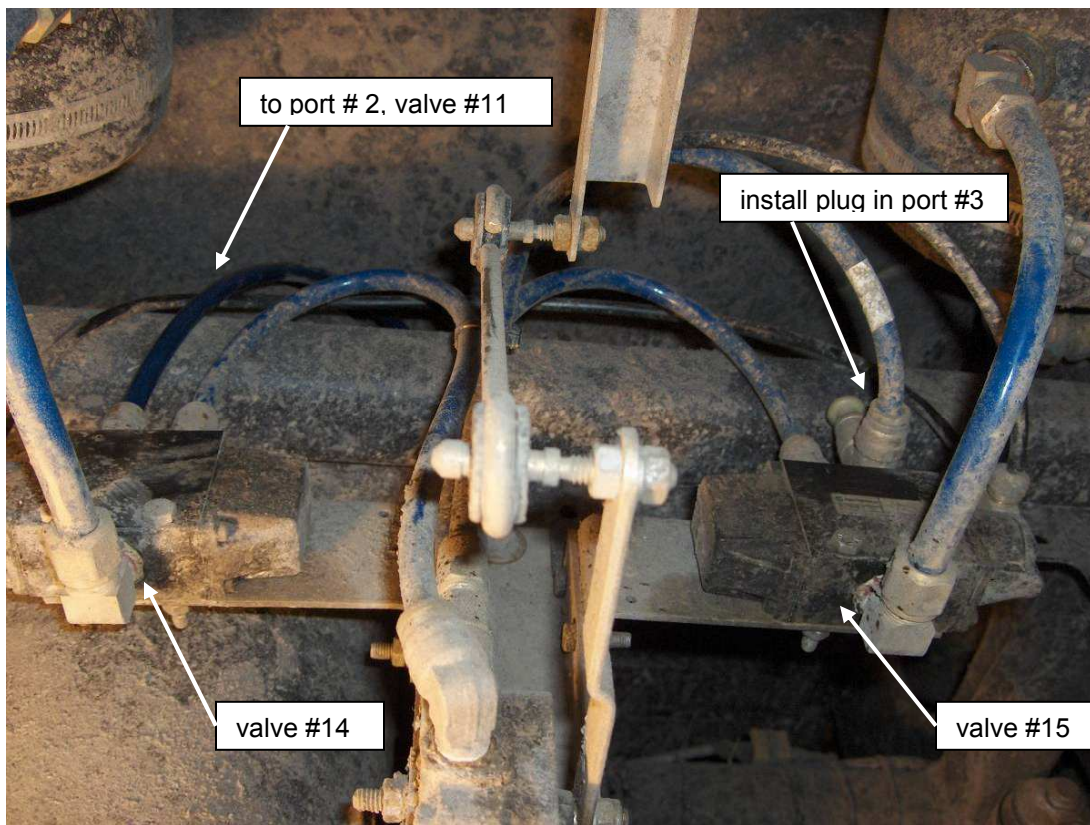

Figure 10 – Valve #14 & 15 (Looking toward front of coach)
15. Remove the air line that connects port #3 on valve #15 and port #3 on valve #14, install plug in port #3 on valve #15 as shown in Figure 10.
16. Install blue 3/8" air line (installed in step 14) to port #3 on valve #14, connect other end to port #2 on valve #11 as shown in Figures 10 & 11.